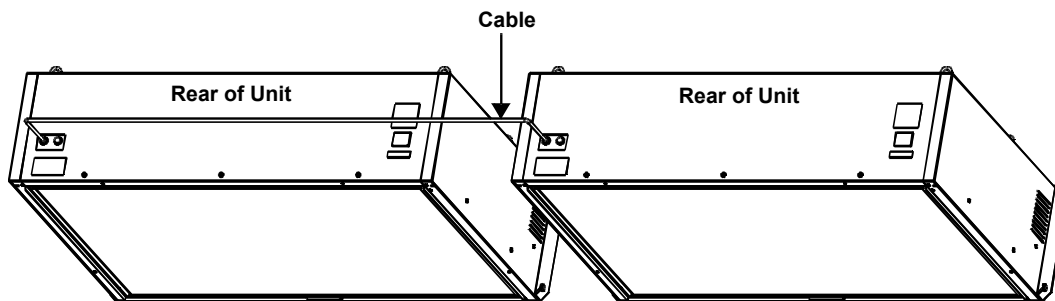

Figure 12. Dual Overhead Luminaire Cable Connection
- Connect the dual luminaire cable between the two luminaires. See Figure 12.